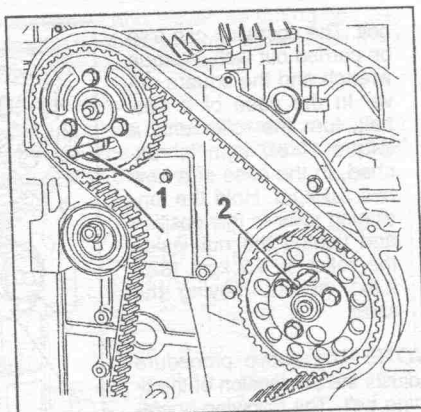

Fig. 1.60. — Camshaft sprocket and injection pump drive gear are locked with pegs (1) and (2).
- Lock the camshaft sprocket and the injection pump drive gearwheel as shown in Fig. 1.60. Special pegs are prescribed, but you will be able to use bolts or rods of suitable diameter.